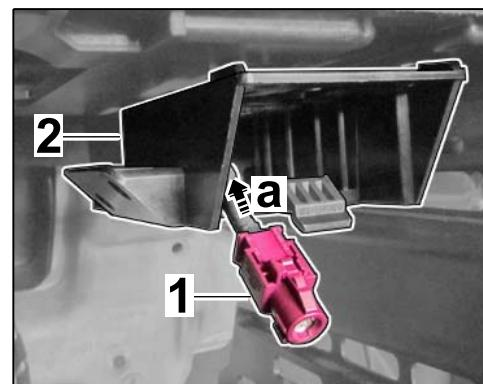

Figure 17
4.3.2 Pull back connecting line  $\Rightarrow$  Figure 17-a- until the violet connector  $\Rightarrow$  Figure 17-1- is at the USB/iPod control unit holder  $\Rightarrow$  Figure 17-2-.